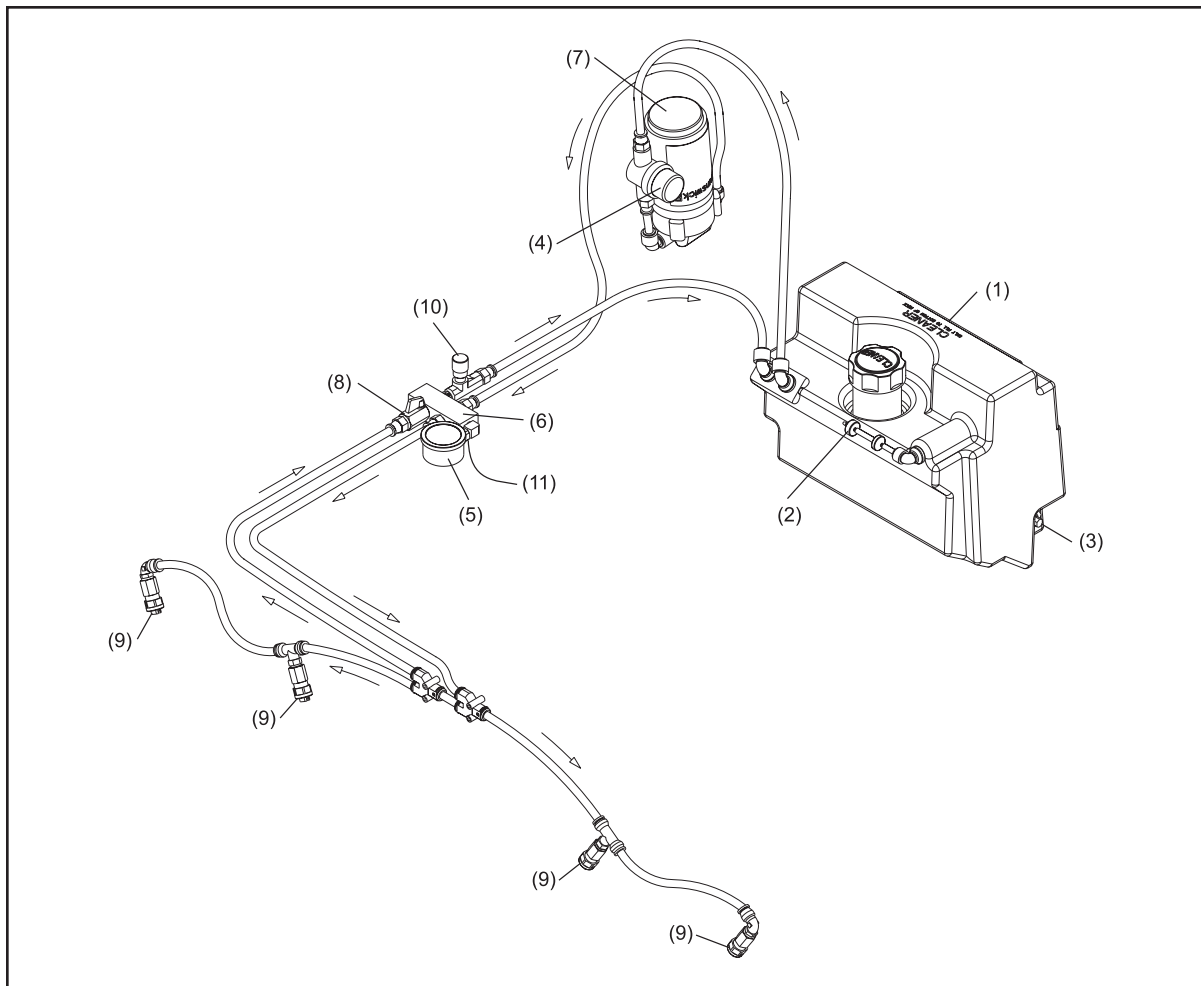

Figure 7-2. Cleaner Spray System
2. The cleaner pump applies cleaning fluid to the lane. Refer to Figure 7-2.